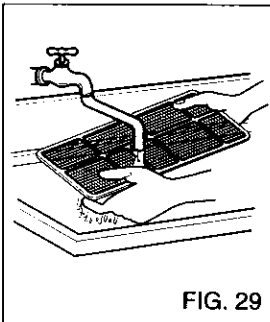

FIG. 29
- Wash the Air Filter under the faucet with warm water. Be sure to shake off all the water before replacing the filter. (FIG. 29)